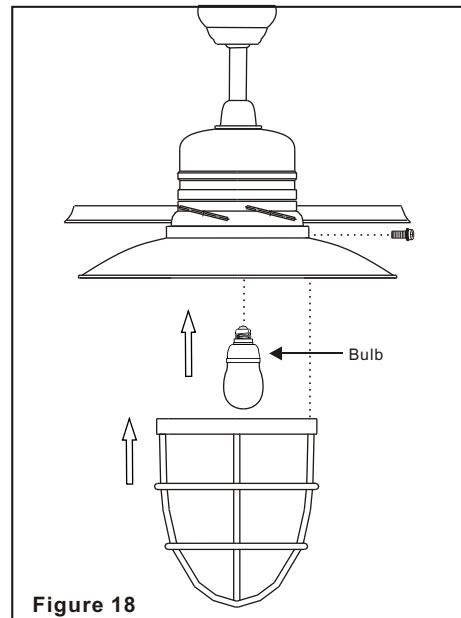

Figure 18
**Step 5.** (Fig. 18) Install 1 x 14 Watt compact fluorescent bulbs (included).
**Step 6.** (Fig. 18) Take the glass shade and glass frame assembly and place it over the light kit housing, secure it in place by tightening 5 screws from the light kit housing.